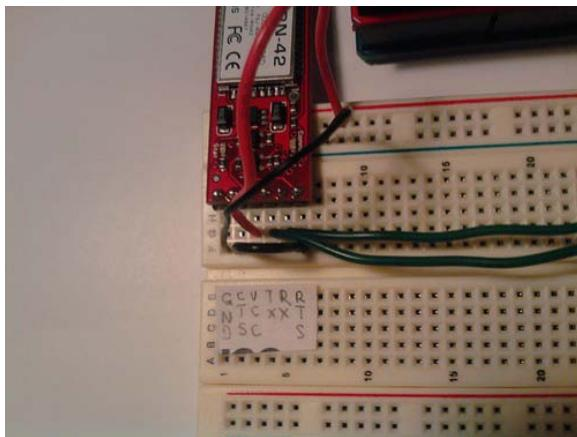

Figure 8-8. Configuration of the Bluetooth Mate Silver
9. Connect wires to the TX and RX pins on the Bluetooth Mate Silver, as shown in Figure 8-8. (Note that the Bluetooth mate silvers pins are referenced by name, as they have no pin numbers.)